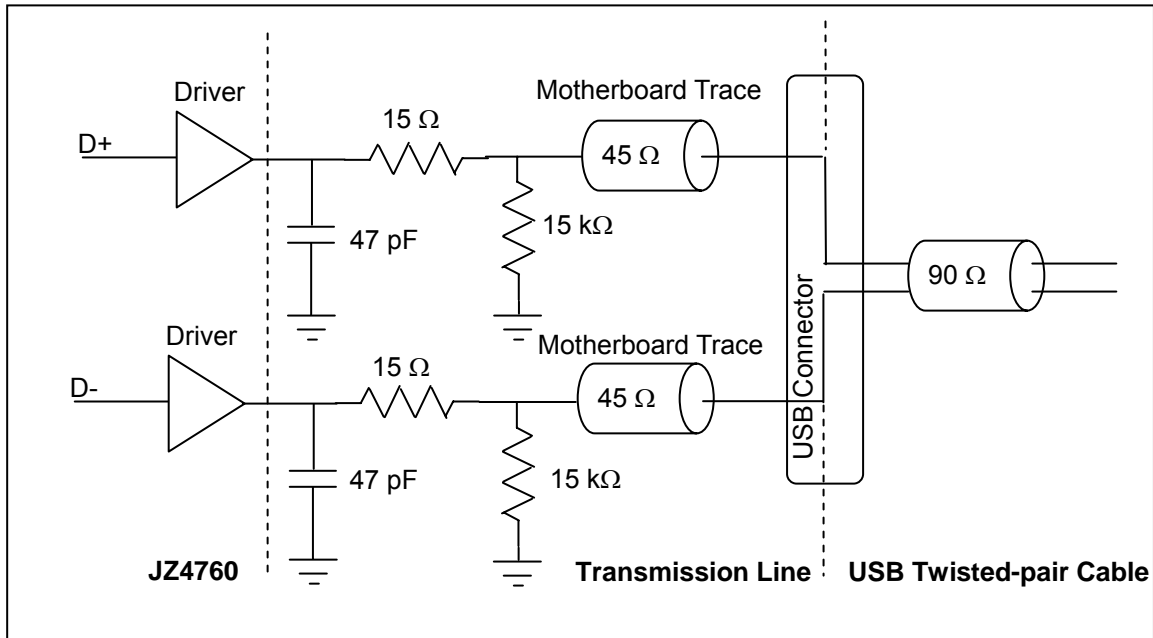

Figure 7-3 Recommend USB Host Schematic
- The trace impedance for the DP and DM signals should be 45  $\Omega$  (to ground) for each USB signal DP or DM. This may be achieved with 9-mil-wide traces on the motherboard based on the stack-up recommended in Figure 7-3 7-4. The impedance is 90  $\Omega$  between the differential signal pairs DP and DM, to match the 90  $\Omega$  USB twisted-pair cable impedance. Note that the twisted-pair characteristic impedance of 90  $\Omega$  is the series impedance of both wires, which results in an individual wire presenting 45  $\Omega$  impedance. The trace impedance can be controlled by carefully selecting the trace width, trace distance from power or ground planes, and physical proximity of nearby traces.